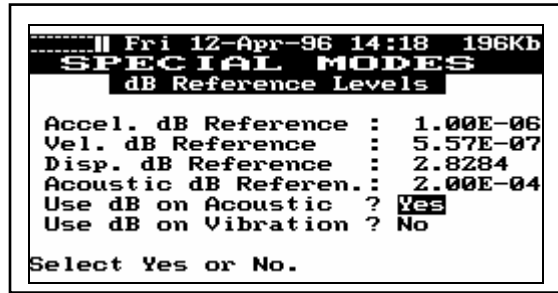

Figure 13
**SM5 dB Reference Levels.** After pressing the **[ENTER]** key, the screen will display the “SPECIAL MODES dB Reference Levels” banner. (See Figure 13). In the lower area of the screen are six fields. Four of those fields are dB reference levels, one each for Acceleration, Velocity, Displacement and Acoustic. The last two fields are toggle fields (Yes or No) for Using dB reference on Acoustic and Vibration. The default is **yes** for acoustic and **no** for vibration.